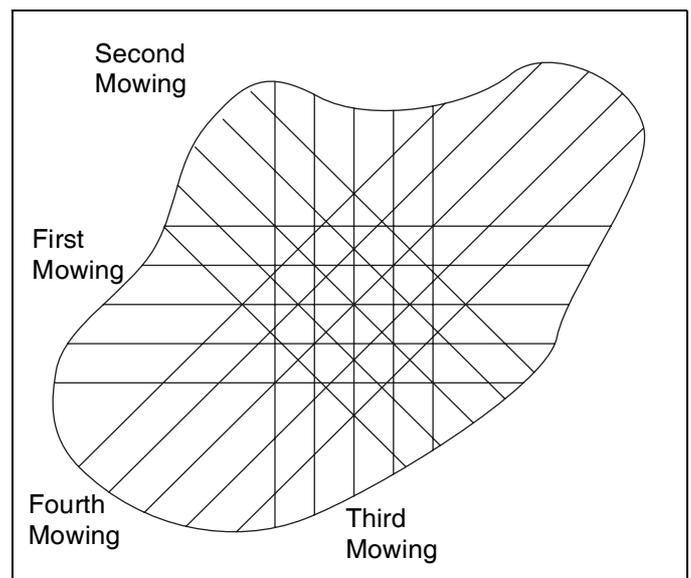

Figure 6F
5. For a more even playing surface and neater appearance, alter the mowing pattern each time a green is mowed. The patterns shown in Figure 6F are suggestions only, the operator or course superintendent can arrange patterns to suit each green.